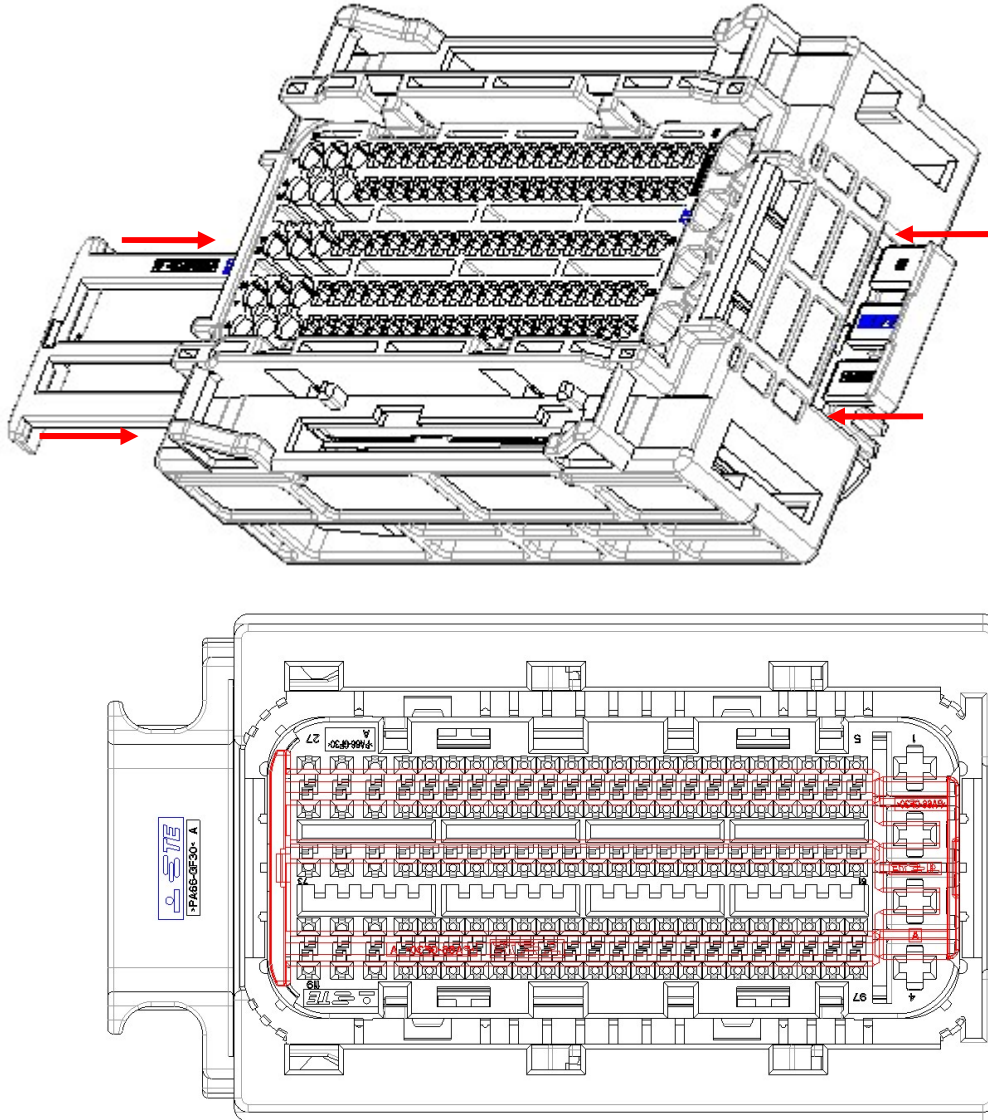

Fig. 10
(1) After all cavities are filled by Contacts properly, push TPA to outside direction in order to complete lock condition as shown in Fig. 10. Operation is completed when contact is latched and the insertion is stopped.